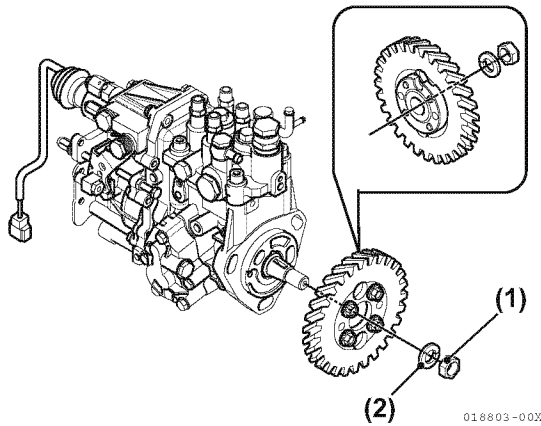

Figure 6-42
5. Reinstall the fuel injection pump drive gear lock washer (Figure 6-42, (2)) and nut (Figure 6-42, (1)). Do not lubricate the threads of the nut or shaft. Hold the crankshaft pulley bolt with a socket wrench and tighten the drive gear nut to the specified torque. See *Special Torque Chart* on page 6-5.